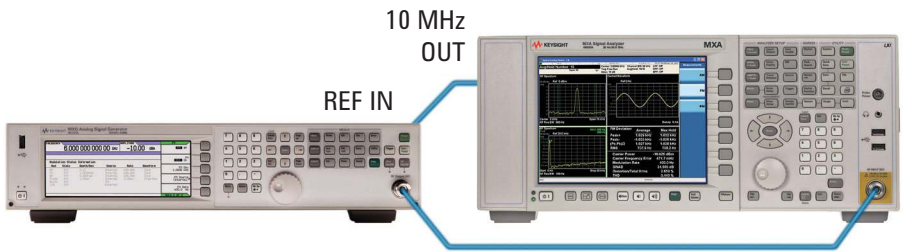

Figure 1. An example of demo configuration
Perform the following steps to interconnect the MXA and MXG (see Figure 1 for a graphical overview):
- A. Using a 50  $\Omega$  RF cable, connect the RF Output 50  $\Omega$  port on the MXG to the RF INPUT 50  $\Omega$  port on the X-Series signal analyzer as shown in Figure 1.
Make sure the RF signal and reference clock connections are as indicated in Figure 1. Note that we change the FM deviation and FM rate slightly during the demonstration.